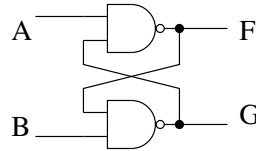

Figure 5.8
1. (8 pts.) Determine the state table for the circuit in Figure 5.8.